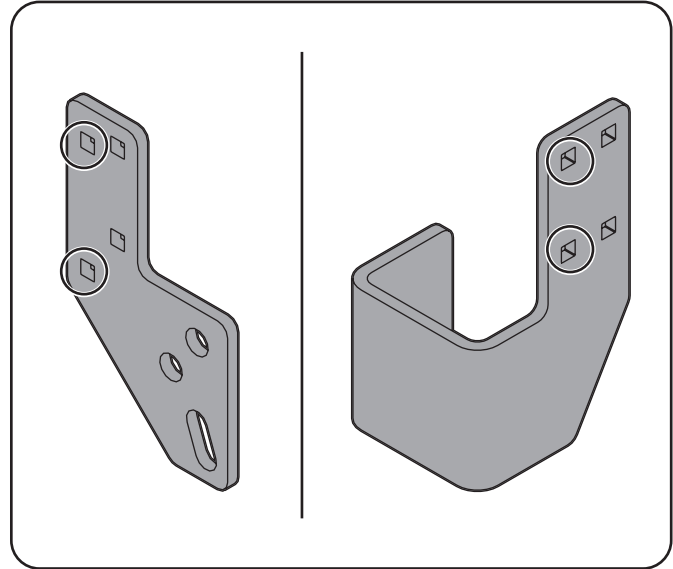

Figure 1-5
1. Use Figure 1-5 below to locate the proper mounting hole locations on the Left and Right Roller Brackets (#6 & #7) for your kit.